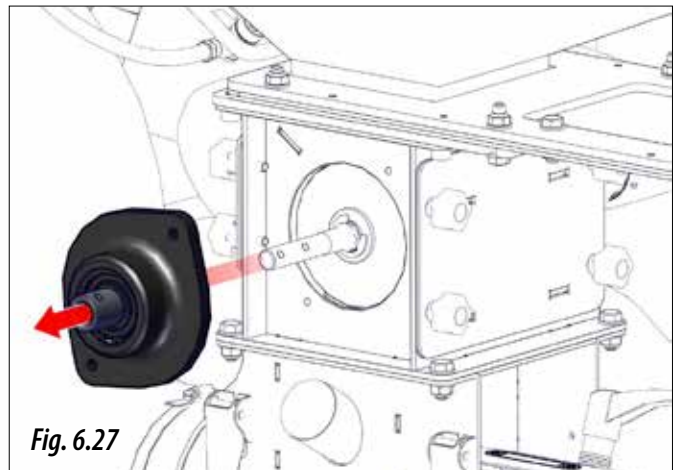
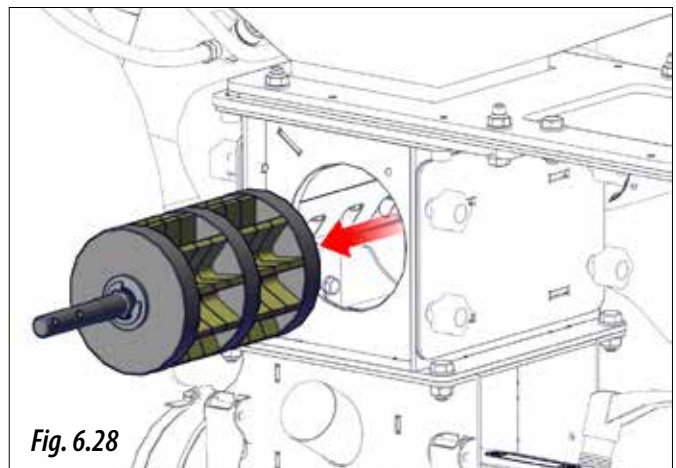

Fig. 6.27
Fig. 6.28
- 3- Remove the side piece (Fig. 6.27) and take out the roller (Fig. 6.28).
- 1- Introduce the seed counter (Fig. 6.27) inside the seed sack for filling it.